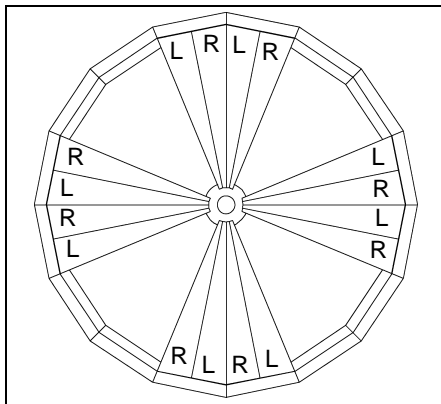
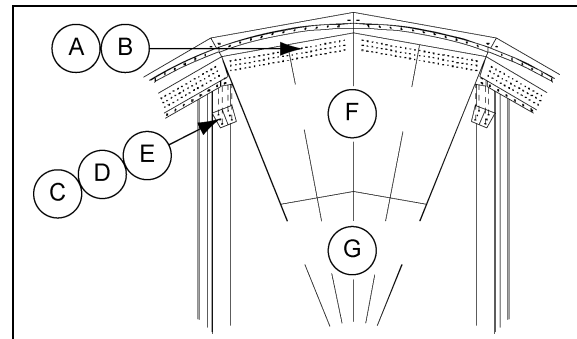
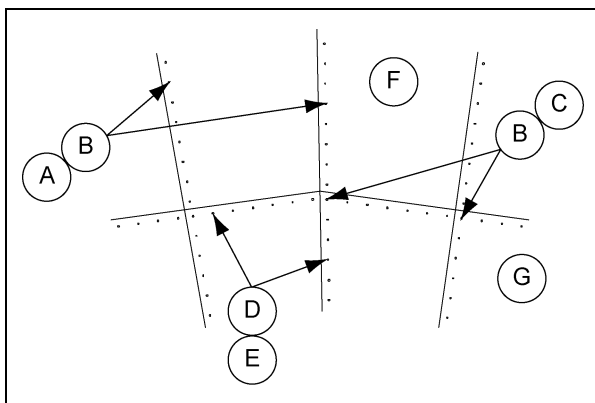
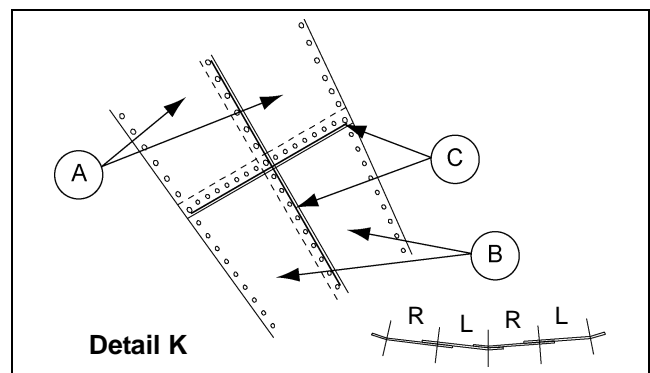

Figure 6D Hopper Panel and Discharge Collar Assembly
Figure 6F Hopper Panel Detail
Figure 6E Detail J - Hopper Panel Bolt Usage
Figure 6G Caulking and Lap (Viewed from Inside of Bin)
Begin assembling the two (2) piece hopper bottom by attaching a right and left pair or pairs of the top hopper panels to the compression angle ring (3/8" x 1" bin bolts (S-7487) and 3/8" nut (S-7489)), along with the back side splice plates which use (3/8" x 1-1/2" bin bolts (S-7488) and 3/8" nut (S-7489)). Refer to Figure 6F. All top panel seams use 5/8" x 1-1/2" hardware (S-4109) and 5/8" nut (S-4110). Once the top panels are positioned the bottom hopper panels may be attached to the top panels and discharge collar with 1/2" x 1" hardware (S-4492) and 1/2" nut (S-3729), at four (4) opposing points as shown in Figure 6D. A 5/8" x 2" bolt (S-4329) and 5/8" nut (S-4110) is used on all corners of the spliced hopper panels. Refer to Figure 6E for bolt usage on hopper panels. Caulking is required on all vertical and horizontal seams of the hopper bottom, (refer to Figure 6G). Complete this assembly by laying in alternate right and left panels moving around in one direction and lapping all sheets the same way. Do not tighten bolts until all hopper panels are attached to each other, the compression ring, splice plates and discharge collar.